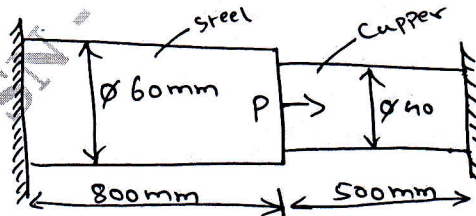

Fig.Q3(a)
- 3 a. Determine the nodal displacement, stress in each element and support reaction in the bar shown in Fig.Q3(a), due to applied load  $P = 100\text{kN}$  take  $E_{\text{steel}} = 200\text{ GPa}$ ;  $E_{\text{Cu}} = 100\text{ GPa}$ .